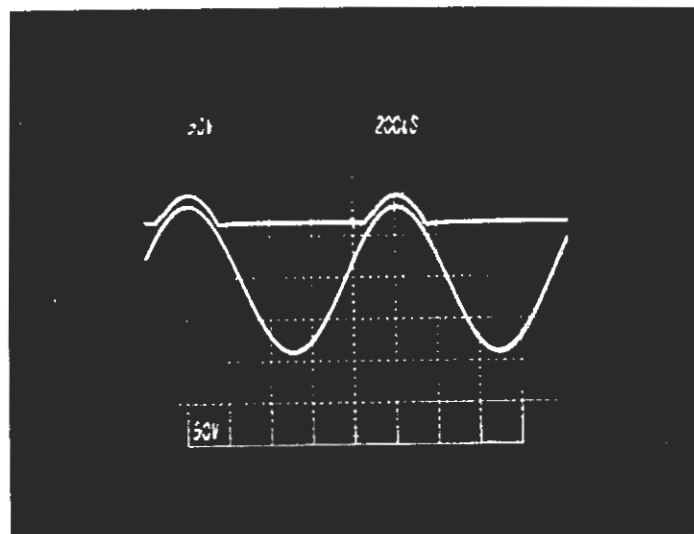

FIG 3
- Figure 3 +125V commutator @ full power @ 1 kHz into 8Ω .